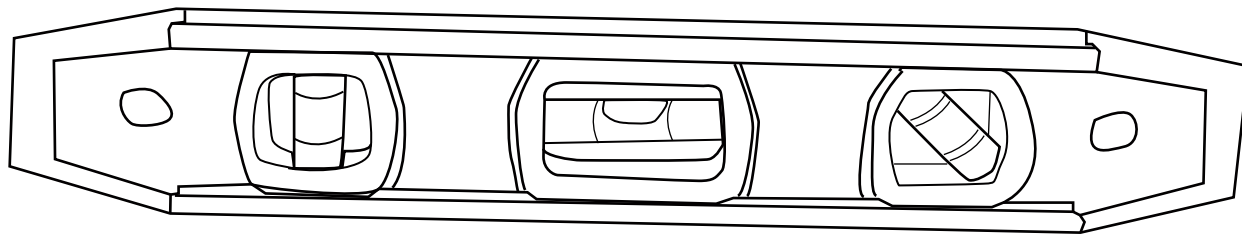

Figure 18
- 19) Adjust the top runway of the slide so that it is level, from side to side and lengthwise as shown below in Figure 18.